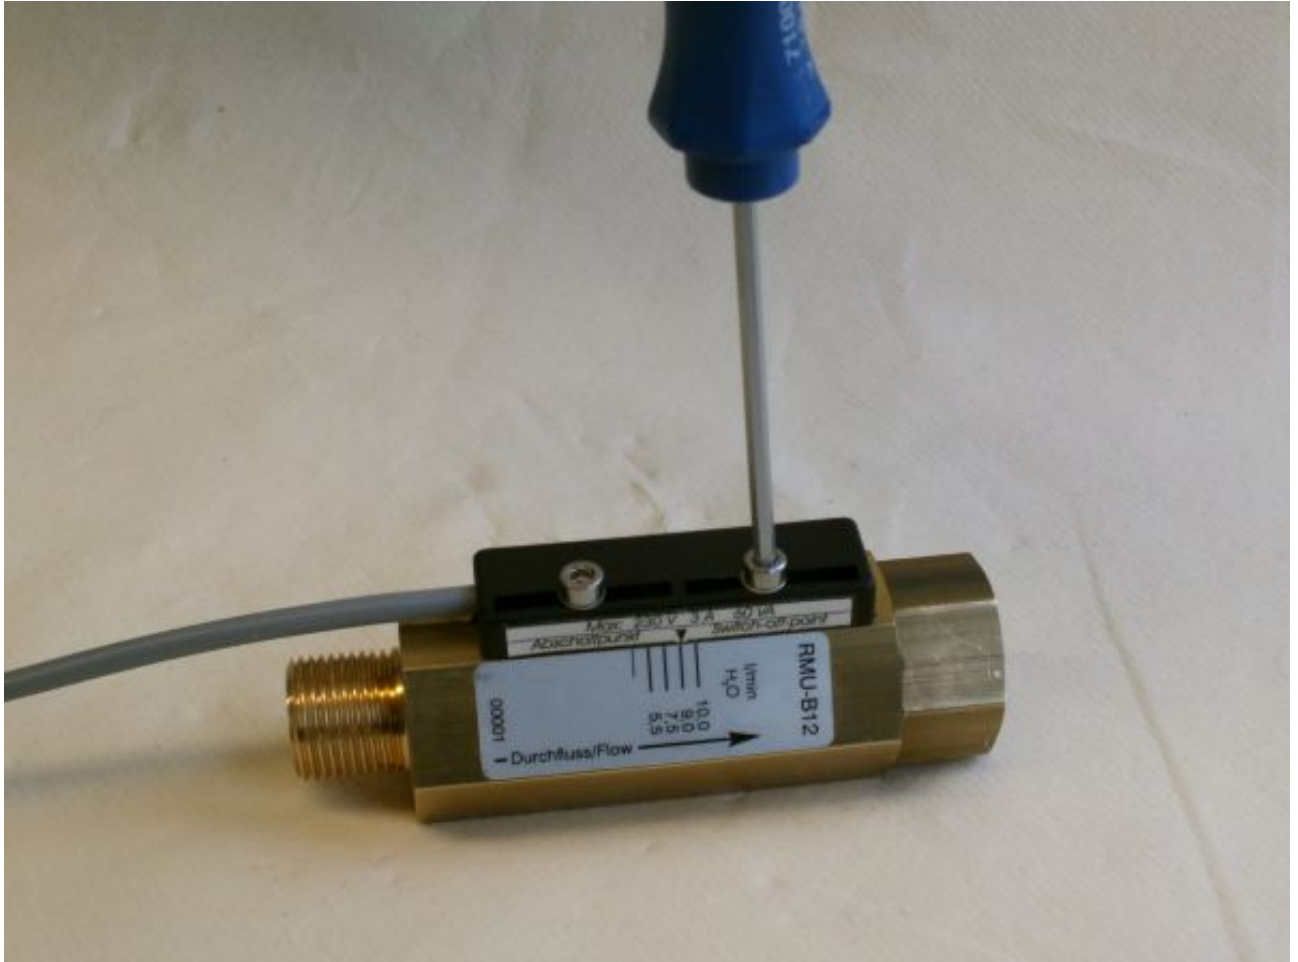

Fig. 37: Loosen set screws
- 1.** ➔ Loosen the set screws (*Fig. 37*) of the switch contact using an appropriate sized hex screwdriver until the switch contact can be removed.
8. ➤ Tighten the set screws (Fig. 37) observing the proper tightening torque (➔ Chapter 11.1 "Tightening torque" on page 67)